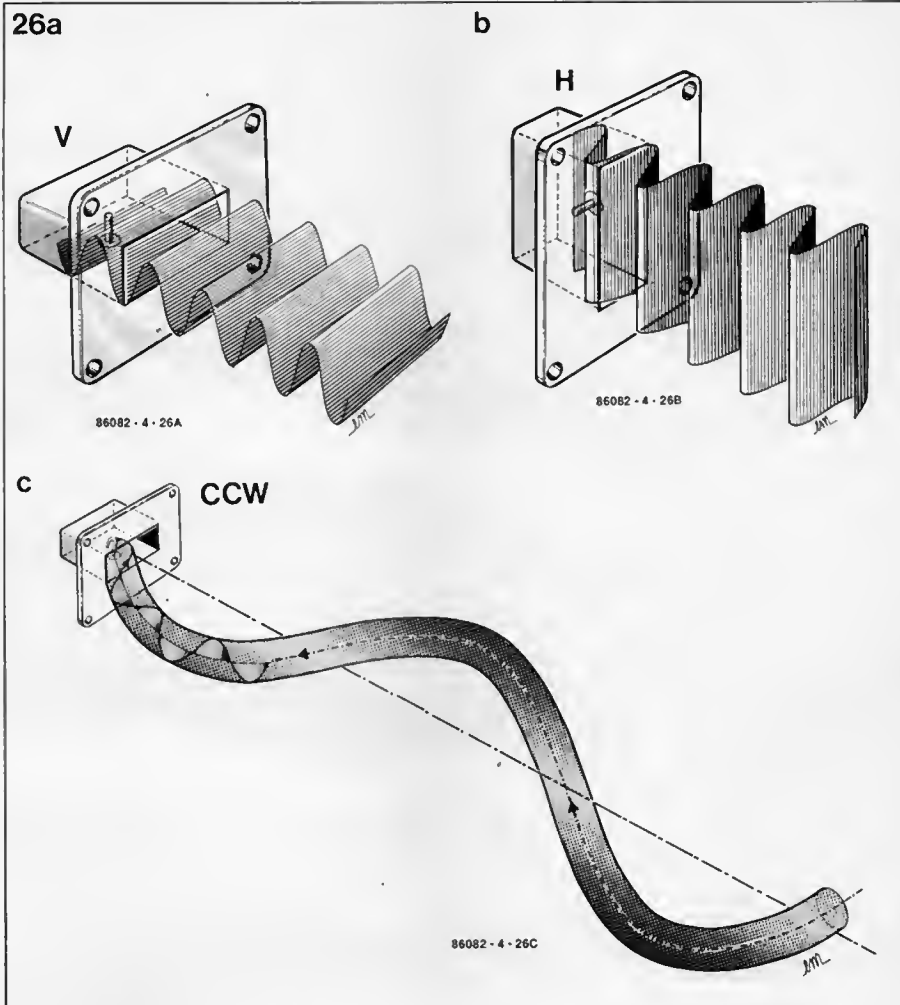

Fig. 26. Linear (H/V) and circular (cw/ccw) polarization.
A. Circular polarization—see [A]—offers a number of technical advantages over conventional, linear polarization. Fig. 26 shows the essential differences between these systems.